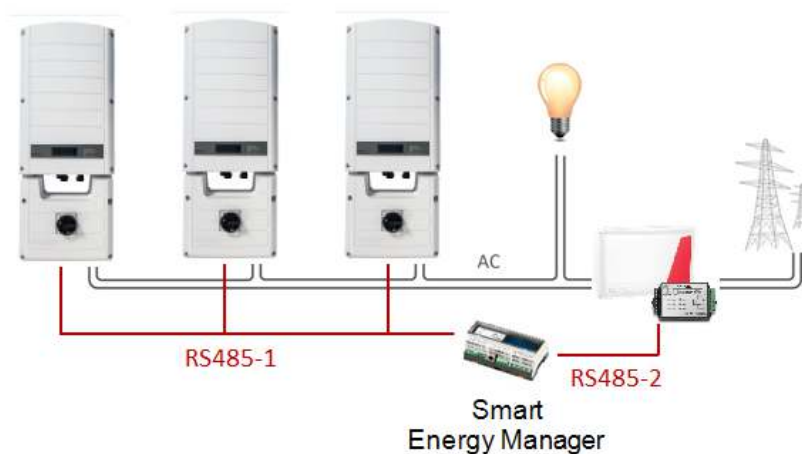

Figure 5: Multi-inverter connection with CCG
- The meter is connected to one of the RS485 ports of a CCG. The CCG is the smart energy manager. The CCG's second RS485 port can be used to create an RS485 bus for communication between the inverters. This option is illustrated in Figure 5.